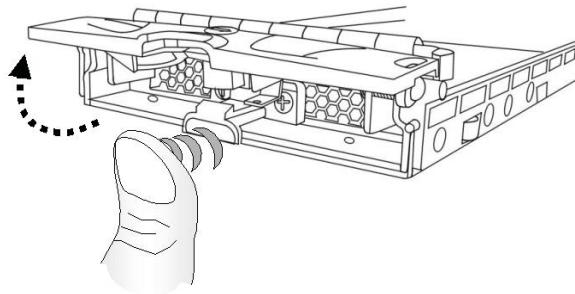

Figure 2-7: Drive Tray Release Button
- Step 2. *Open the front flap on the drive tray.* (See *Figure 2-7*) Push the release button on the drive tray. The front flap will spring open.